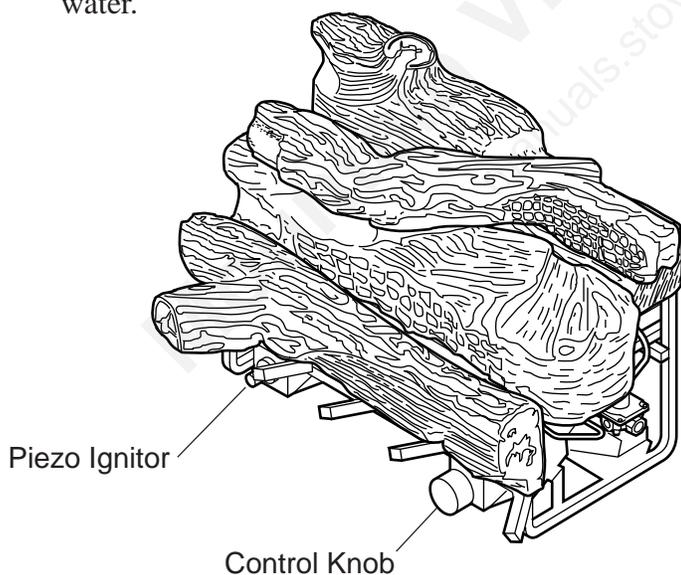

Figure 28 - Location of Piezo Ignitor and Control Knob on Manual and Thermostat Unit
4. Refer to *Figure 28, page 26* for the location of the piezo ignitor and control knob. Push in gas control knob slightly and turn control knob clockwise to the OFF position.
4. Refer to *Figure 28, page 26* for the location of the piezo ignitor and control knob. Turn control knob clockwise  to the OFF position.